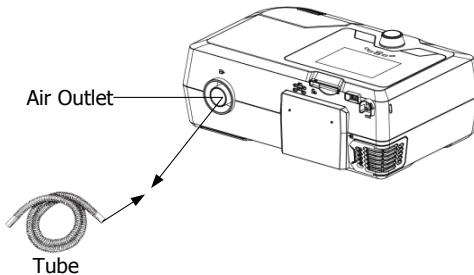

Fig. 11-4
- (1) Connect one end of the tube to the air outlet of the device, as shown in Fig. 11-4.